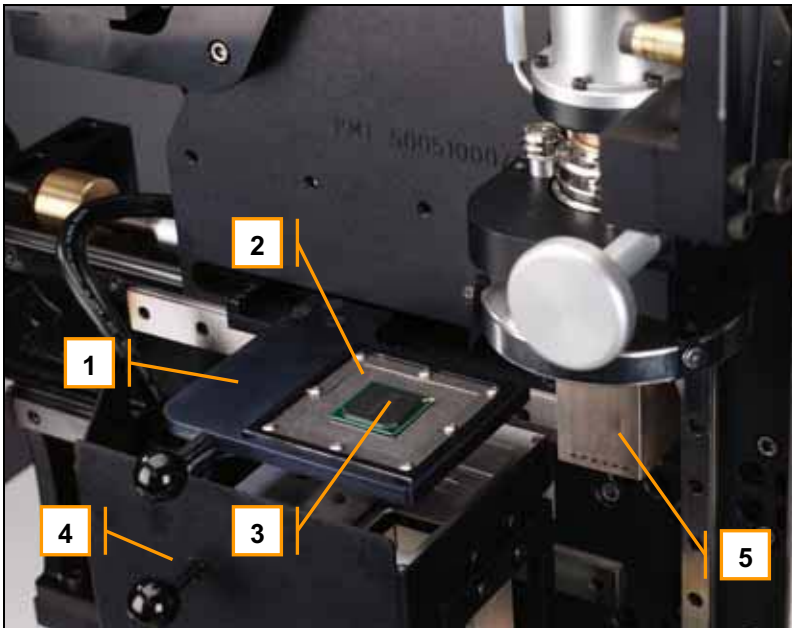

Figure 19: Component Nest
7. Move the component nest/CPF under the hot component (Fig. 19)
10. Retract the component nest and raise the head. (Fig. 19, 14)
3. Load CPF with BGA into component nest (Fig. 19)
5. Retract the nest and extend the optics train under the nozzle with the component (Fig. 19)
7. Retract the optics train, move the head DOWN to the board. (Fig. 19, 13-15)
4. Insert the standard nest plate into the nest (Fig. 19)